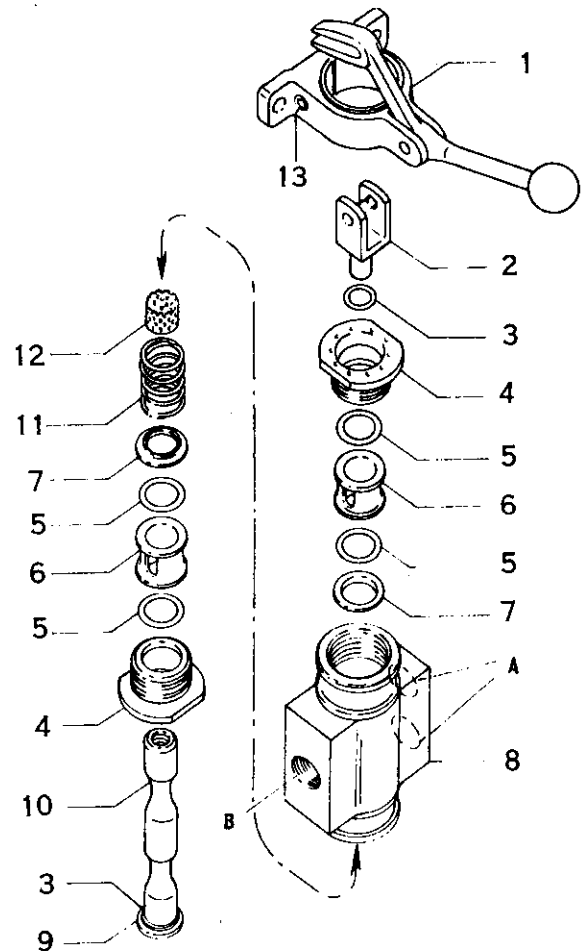

FIG 27 - WINCH CONTROL VALVE (EXPLODED VIEW)
- m. To remove the piston from the piston rod, clamp the flats at the yoke end in a vice and remove the two nuts (6) and flat washer (15) which secure the piston cup. Fit new piston and reassemble the washer and nuts, locking them together securely.
- c. Assemble a new tulip seal (10) and new gland packing (11) with gland adjuster (12), and screw the adjuster up to the gland packing finger tight.
- d. When assembling the yoke (13) to the piston rod, screw it up to the end of the thread and, if necessary, back it off until the grub screw hole registers with one of the flats on the rod. Assemble the grub screw and tighten.
**AIR VALVE, WINCH CONTROL (REFER FIG 27)**
- d. Clamp the valve bracket (1) in a vice. **DO NOT CLAMP THE VALVE BODY (8) IN THE VICE.**
- e. With a large broad bladed screwdriver turn the slotted spindle screw (9) at the bottom end in an anticlockwise direction. This should loosen the threaded yoke (2) at the other end. Continue turning until the yoke is free and remove it and its lockwasher (3).
**NOTE:-** If the slotted spindle screw unscrews, remove it. Then take out the socket screw (13) which clamps the bracket to the body, and remove bracket, yoke, and spindle (10) together. The exhaust bearings (4) can then be removed allowing the valve ports to be pushed out either way.
- g. With a piece of round wood about 3/4 inch diameter, push the spindle out of the body along with all valve components, noting the order of assembly which should be as in fig 27.
- The pressure washers (7) must be assembled with the raised lip towards the "O" rings.
- The centre spacer (12) locates inside the spring (11).
- The body (8) has two ports on one side as shown in fig 27 (item A) and one port on the opposite side as indicated by the arrow at B.
- The valves are supplied with the ports plugged, one of which is shown in fig 27.